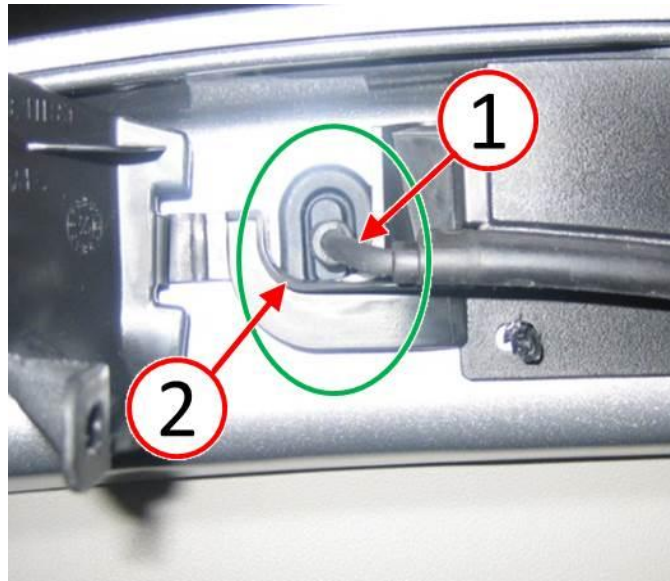

Fig. 3 Correctly Routed Wire Harness
- b. NO>>> the pinch sensor wire harness (1) is correctly routed over the pinch sensor (2) as shown in (Fig. 3). Close the pinch sensor inspection cover. This Bulletin does not apply.
4. Replace the pinch sensor (2) and route the pinch sensor wire harness correctly as shown in (Fig. 3). Refer to the detailed repair procedures available in: DealerConnect> TechCONNECT under: Service Info> 08 - Electrical> 8N - Power Systems> Power Liftgate> SENSOR, Pinch> Removal/Installation.